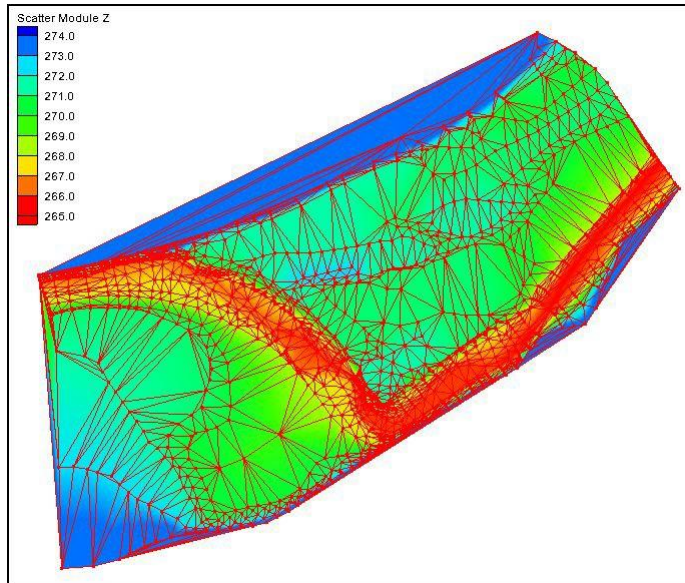

Figure 1 Triangulated and contoured data points
5. The resulting image should appear similar to Figure 1.